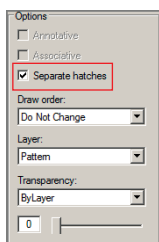

FIGURE 8.15
2. Check **Separate Hatches** in the Options group of the Hatch Edit dialog box (see Figure 8.15) and click OK.